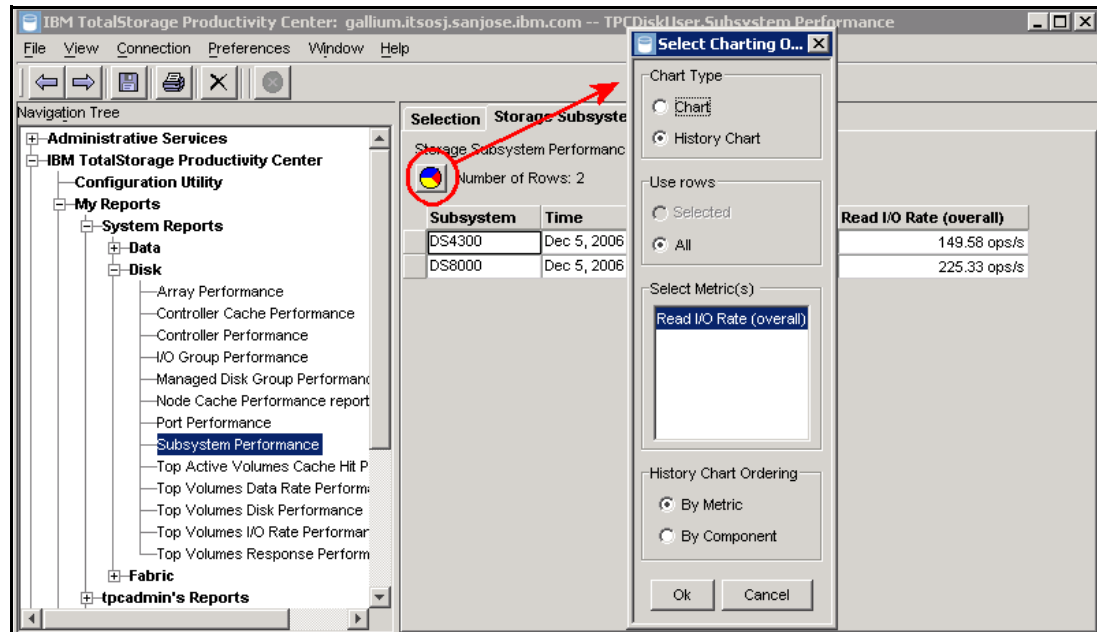

Figure 7-32 Select Charting Option
6. We can now create a chart based on the generated report. Click the chart icon and select the chart type and rows of the report that you want to be included in the chart as well, as the performance metric to be charted (see Figure 7-32).